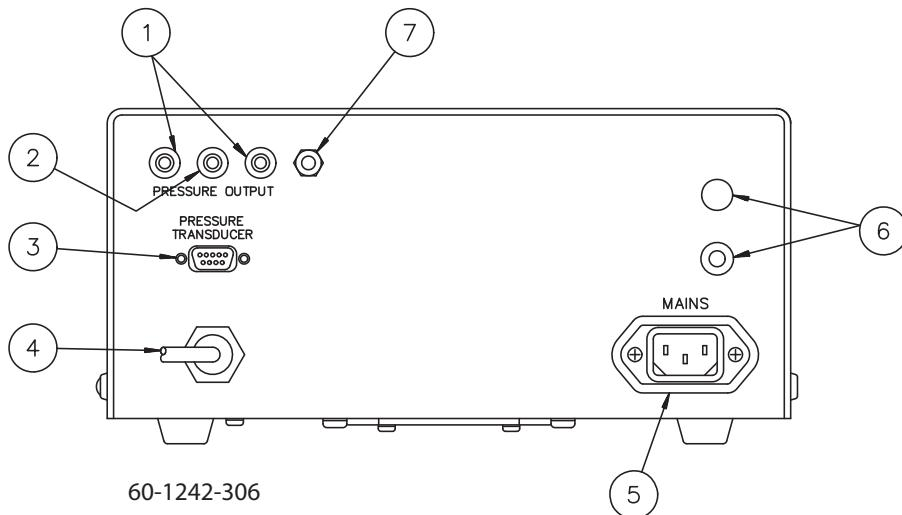
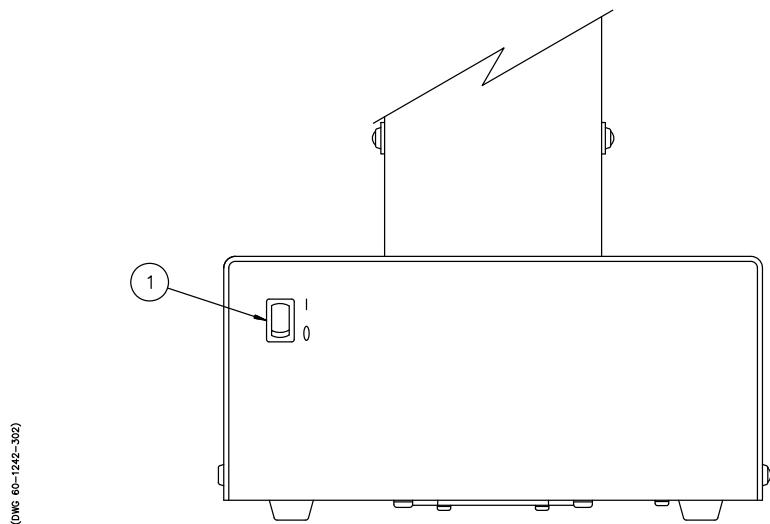

Figure 1-7 Pump rear panel connectors
Figure 1-8 Pump front panel controls
The only operational control on the pump itself is the standby switch, shown in Figure 1-8. The rear panel has several connectors, described in Table 1-11, and shown in Figure 1-7.
1. Connect the pressure transducer cable (which originates from the top of the pump cylinder) to the nine pin sub-D PRESSURE TRANSDUCER connector on the pump rear panel (Figure 1-7). Be sure to tighten the thumbscrews.